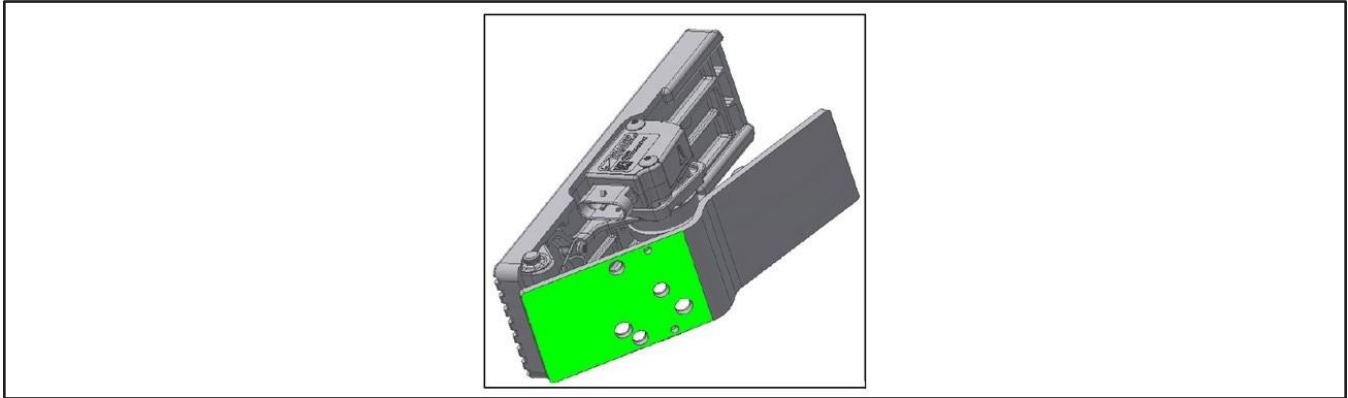

Figure 3 - Pedal Underneath Surface (Typical for all Pedals)
- 1.14. Underneath the brake pedal apply anti-seize lubricant Never-Seeze R085023 (Figure 3).